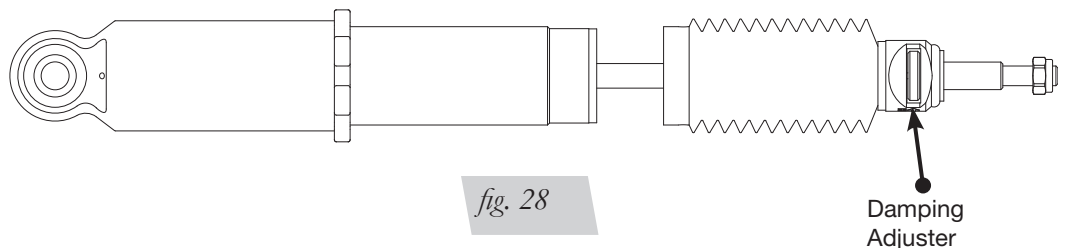

fig. 28
1. The dampers in this kit have 30 settings, or “clicks,” of adjustable compression and rebound damping characteristics. Damping is changed through the adjuster at the top of the shock rod (Fig. 28).
2. Turn the adjuster clockwise (H) and the damping settings are hardened, reducing oscillations and body motion. Turn the adjuster counterclockwise (S) and the damping is softened.